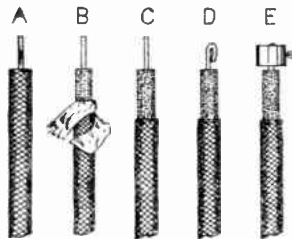

Fig. 1 Stages in preparation
The illustration at Fig. 1 indicates the stages of preparing a single stranded conductor end. In view (A), the insulation is shown trimmed back right up square with the rubber and outer covering of tape and braiding. This idea is not a good one, since the tape and braid tend to set up a certain amount of condensation which must be avoided.